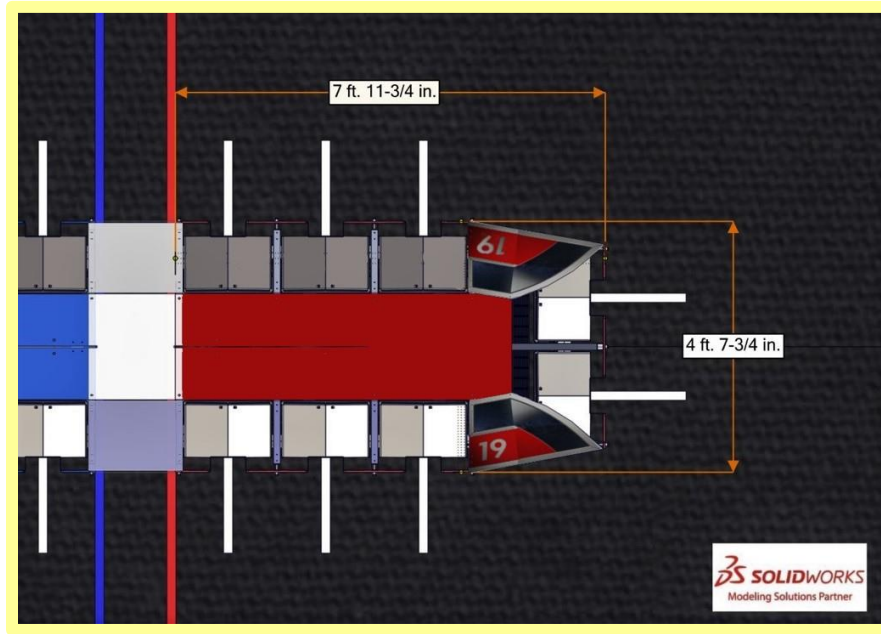
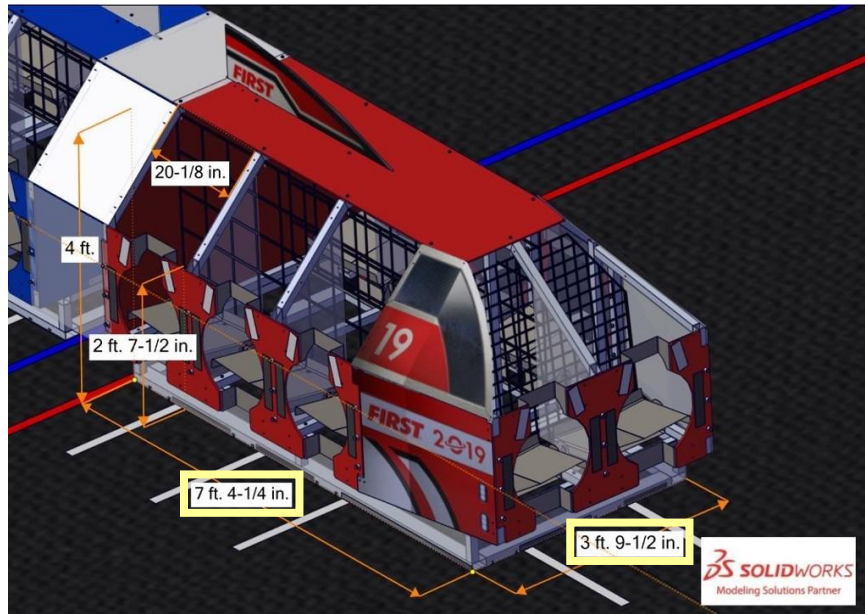
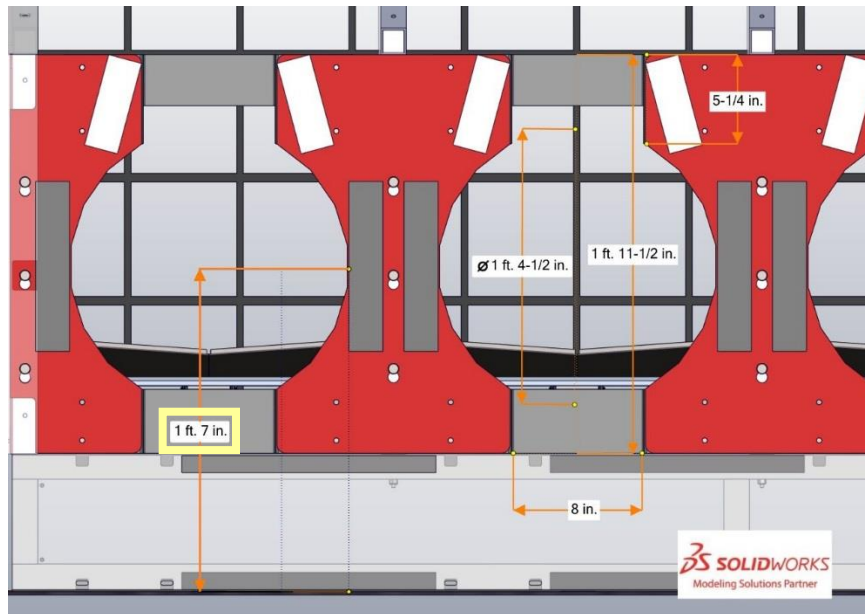

Figure 4-16 Overall CARGO SHIP length and width.
Figure 4-17 Major CARGO SHIP dimensions.
Figure 4-18 CARGO SHIP HATCH geometry and dimensions.
- Figure 4-16 has been added (please note, this addition rennumbers all subsequent images in Section 4).
- Figure 4-17 (formerly Figure 4-16) has been updated to correct the length and width of the CARGO SHIP base.
- Figure 4-18 (formerly Figure 4-17) has been updated as follows: